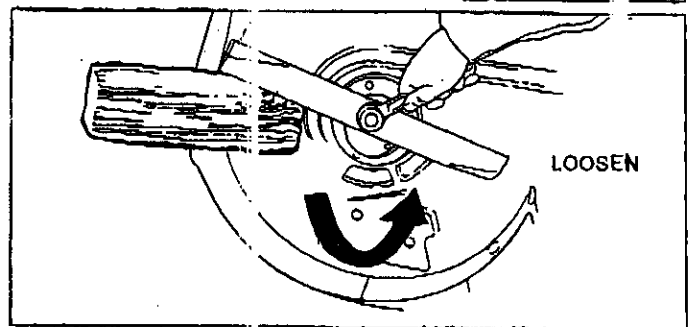

Figure 2. Blade Removal
2. See Figure 2. Remove the RH blade. Use a block of wood to prevent blade rotation while loosening the capscrew by turning it counterclockwise.